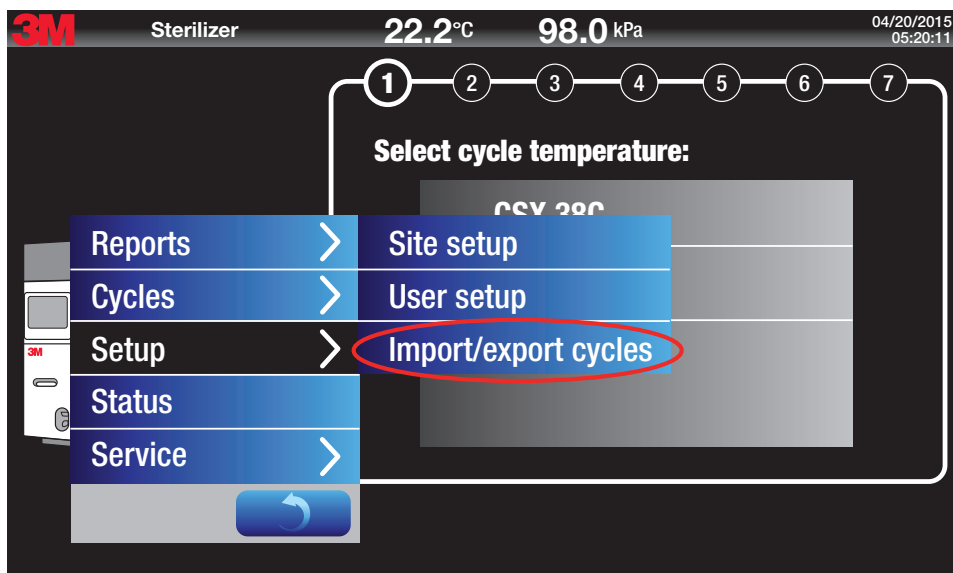

Figure 52.
2. Go to **Menu>Setup>Import/export cycles** (Figure 52). Import/export of custom cycles requires a Supervisor PIN. **Custom cycles must be saved in a Folder on a USB drive.** The GSX Series sterilizer only looks for Folders on the USB drive at the beginning of the cycle import process.